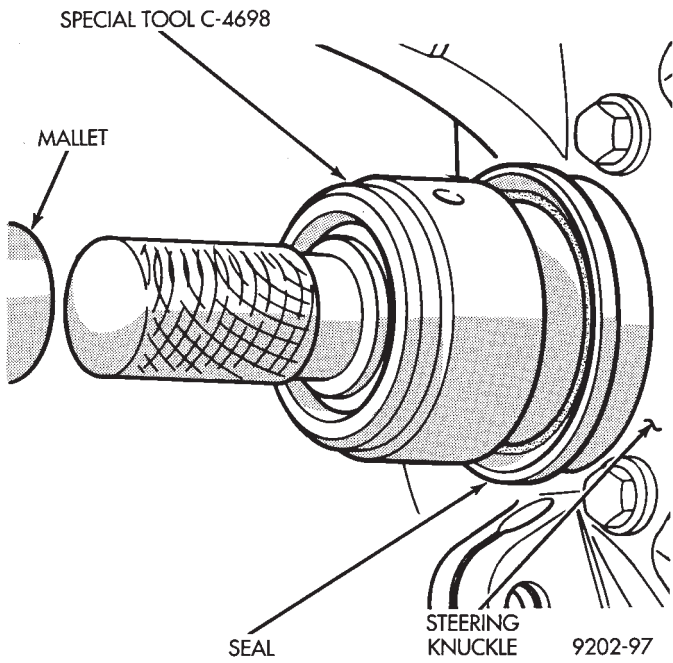

Fig. 11 Seal Installation In Steering Knuckle
(2) Position new seal in recess on back of the steering knuckle. Assemble Installer, Special Tool C-4698 and install seal into steering knuckle until it is fully seated into recess (Fig. 11). Inspect the wear sleeve on the C/V joint housing and replace if required.